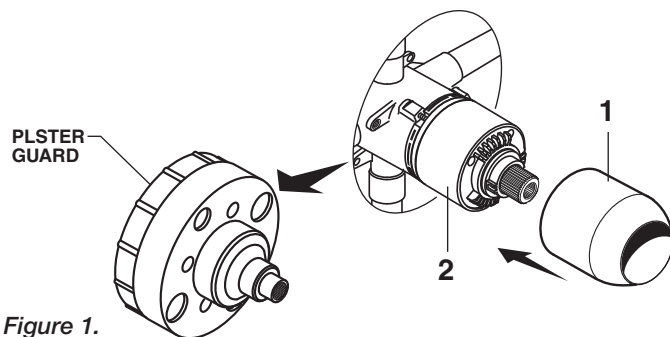

Figure 1.
- **Figure 1.** Remove plaster guard from valve. Push CAP (1) over VALVE CARTRIDGE (2) until seated against stop.